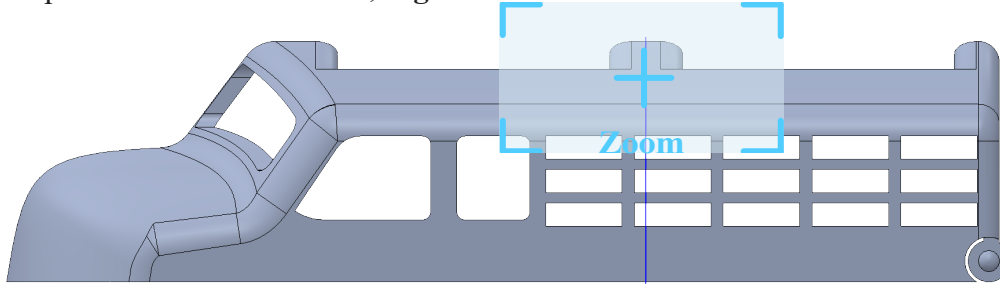

Fig. 90
Step 3. **Zoom in on center**, **Fig. 90**.